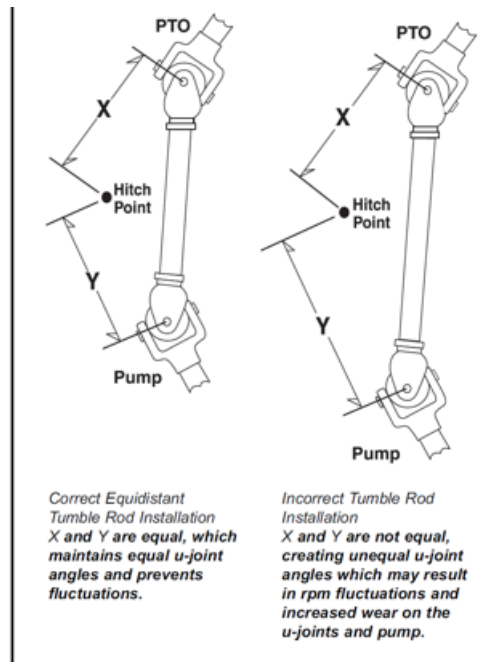

Figure 3
- The hitch pin is equal distance between the end of the tractor PTO shaft and the end of the pump shaft. (See figure 3)